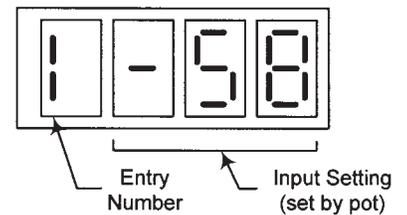

Figure 2. Typical 1st Calibration Display
- (1) Admit inlet air at -60° dew point maximum. Allow 60 minutes for the sensor to dry down to the test frost point.
- (2) Using the inlet air moisture control, establish and measure a frost point of -60° F \pm 5° on the LPFP. Observe the digital dew point display; it will typically stabilize in 30 - 60 minutes. If the display reading has not stabilized in 30 - 60 minutes, use an LCD meter to monitor sensor capacitance until the capacitance stabilizes before proceeding. Record the stable capacitance value and the dew point reading on the external standard hygrometer.
- (3) Press the calibration push button and hold for 5 seconds (but not more than 10 seconds), then release it. The system will enter calibration mode and the display will show (Figure 2) the calibration input number (blinking) and the setpoint value (not blinking - steady).
- (4) Record the dew point reading on the external standard hygrometer. Use the potentiometer to set the display to that value (the -58 in Figure 2).
- (5) Once the setting is made, press the calibration push button to record that calibration point. The system moves to the second calibration point and the leftmost digit changes to "2."
- (6) Establish and measure a frost point of -45° F \pm 5° on the external standard hygrometer. After the dew point has stabilized, allow 30 to 60 minutes, as in step e above, for the sensor(s) to stabilize before proceeding.
- (7) Repeat steps b through g for calibration points 3, 4, and 5 at dew points of -30° F \pm 5° , -15° F \pm 5° , and 0° F \pm 5° respectively.